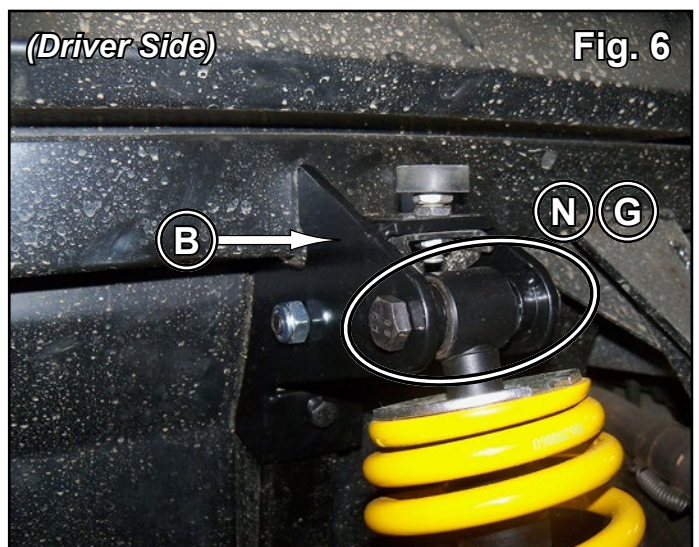

Fig. 6
5. Reinstall Shock into Rear Lift Bracket (B) using (1) each M10-1.5 x 70mm Lg. HHCS (N) and M10-1.5 Nylock Nut (G). See Fig. 6.